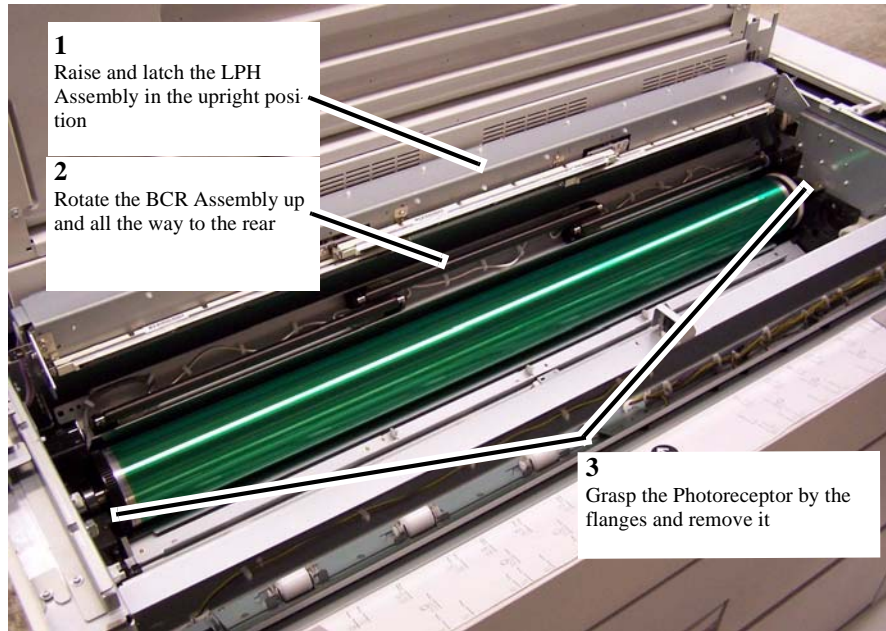

Figure 2 Photoreceptor removal
- b. Rotate the BCR Assembly up and all the way to the rear (Figure 2).
- c. Grasp the Photoreceptor by the left flange and the Drive Gear (right side) and carefully remove it from the Printer (Figure 2).